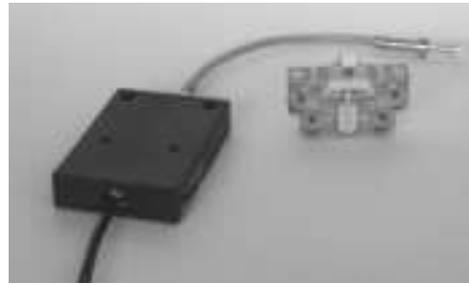

Fig. 15 Arc chute indicator
- ARC CHUTE INDICATOR (Code 17) - a potential free, NO contact mounted on the sidewall. Locks electrically the closing drive when arc chute is not installed on [Fig. 15].